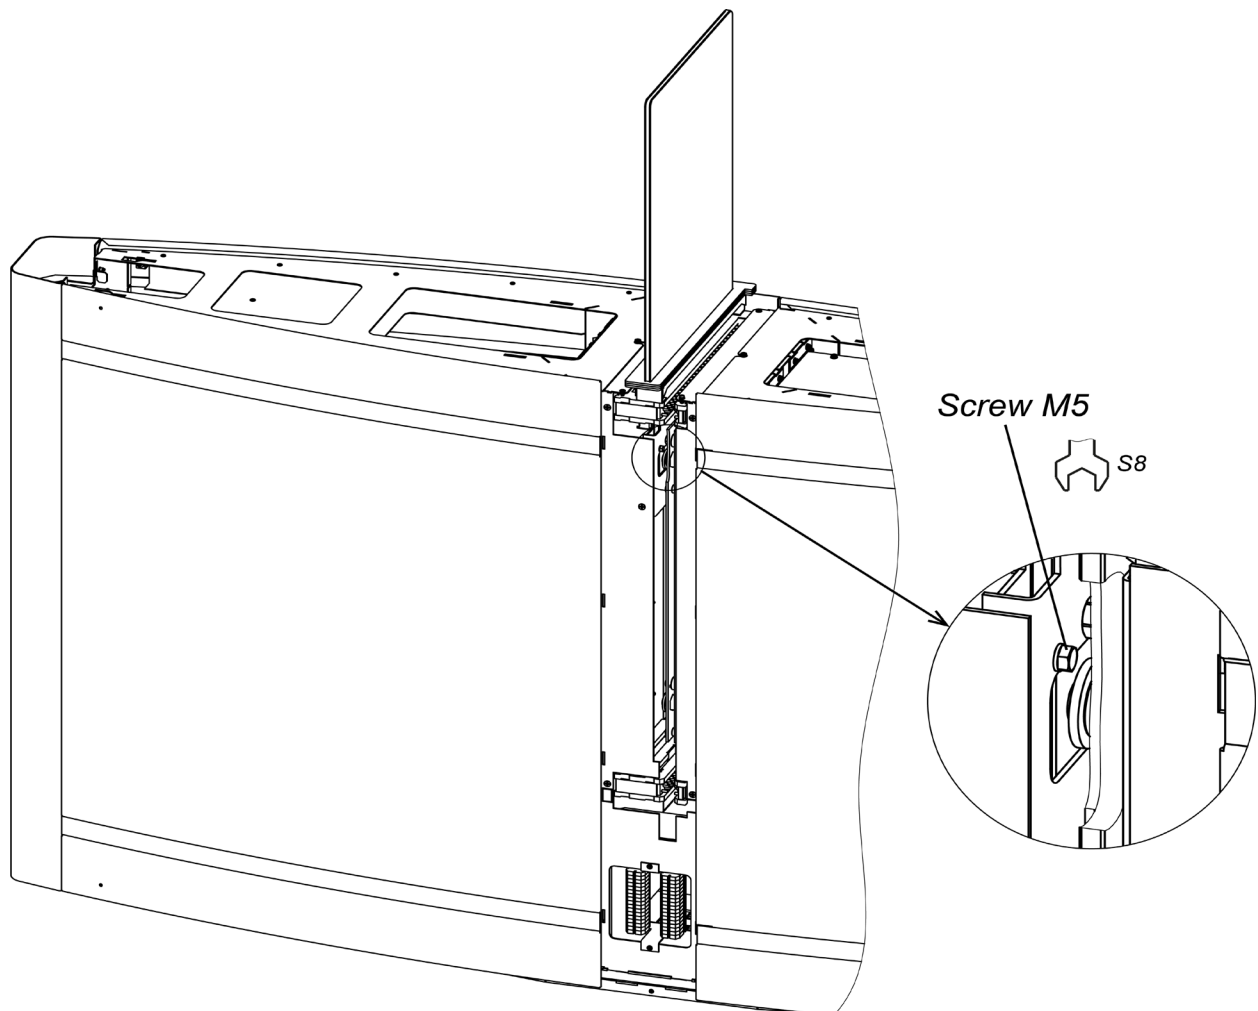

Figure 23. Dismantling of the filling glass
- Mount the filling glass (2) (see sec.8.7.5, Fig. 23).
1. Loose the two M5 screws (4) that are located under the central insert on the sides by using S8 socket wrench (see Fig. 23).